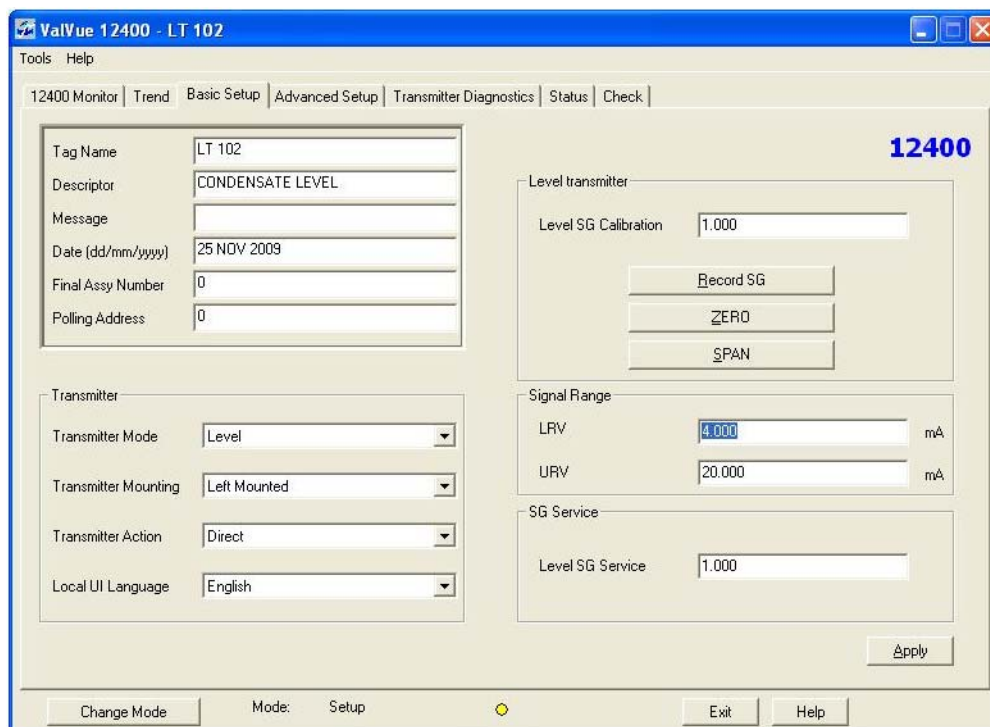

Figure 161 Selecting LRV
1. Enter a value in the *LRV* or *URV* field (Figure 161).